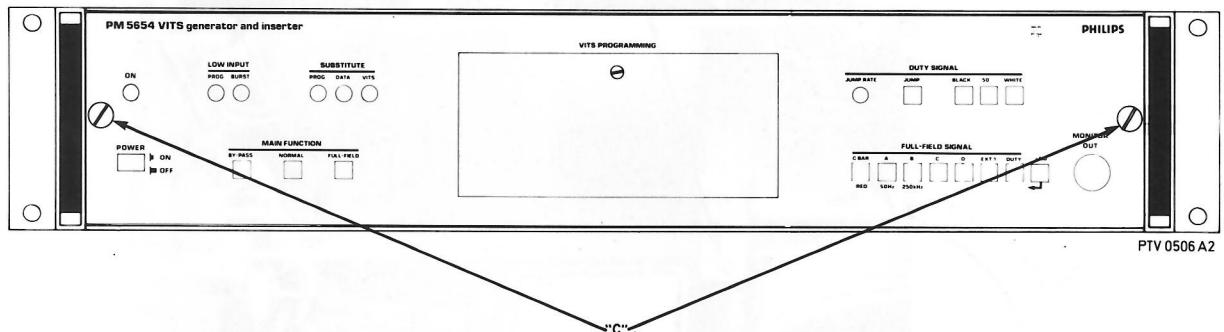

Fig. 9-2 Instrument front panel
3. Referring to fig. 9-2 loosen the screws C and remove the front plate. The front plate is pulled forward and down.